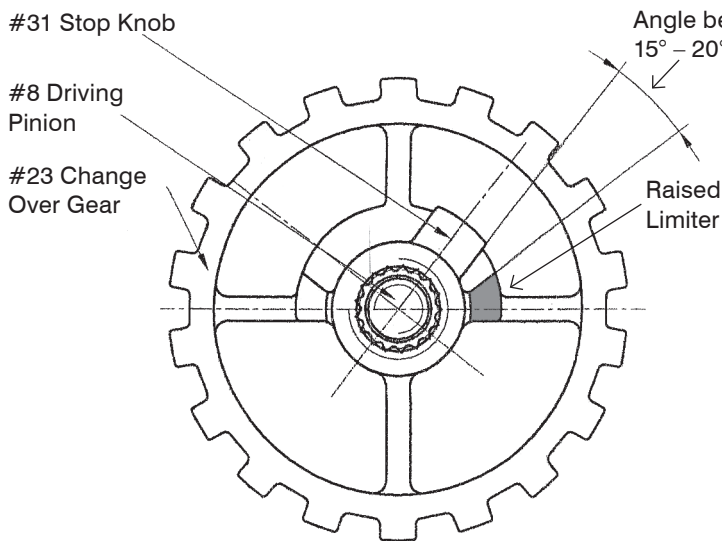

Figure 4
5. Replace stop knob #31 on Pinion Shaft #8. Position so that TAB on stop is at 15-20 degree angle to raised limiter on right side of change over gear. See figure 4 for correct position.